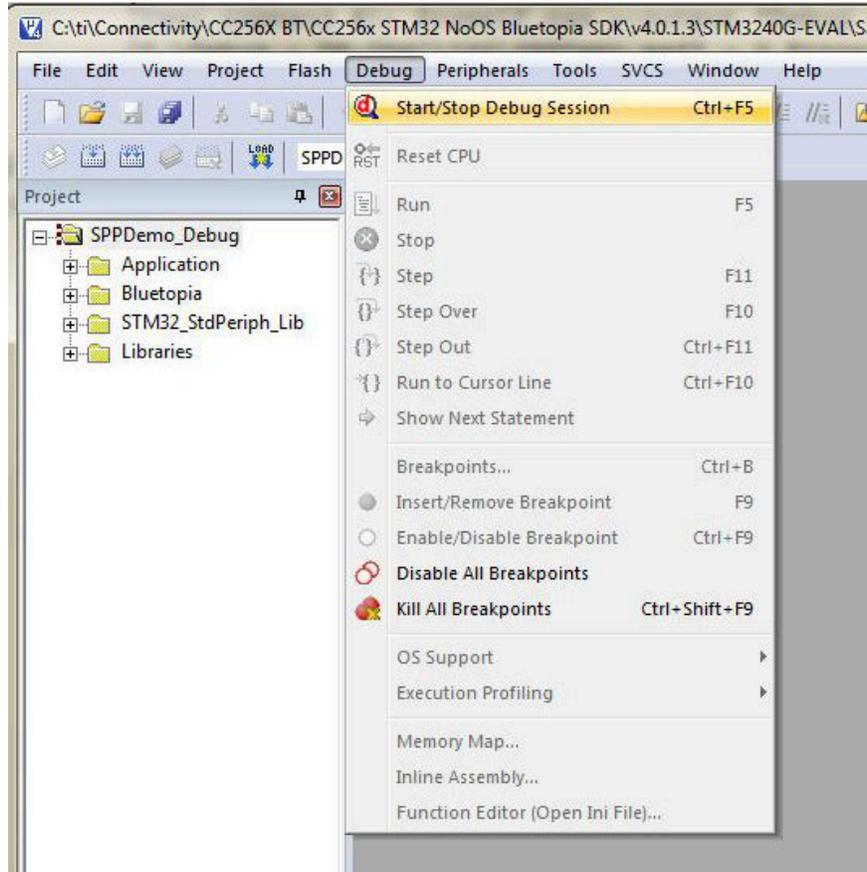

Figure 7-8. Debug Mode
- a. Select *Start/Stop Debug Session* to start loading the profile on the STM32 device and to work in *Debug* mode. (See Figure 7-8.)